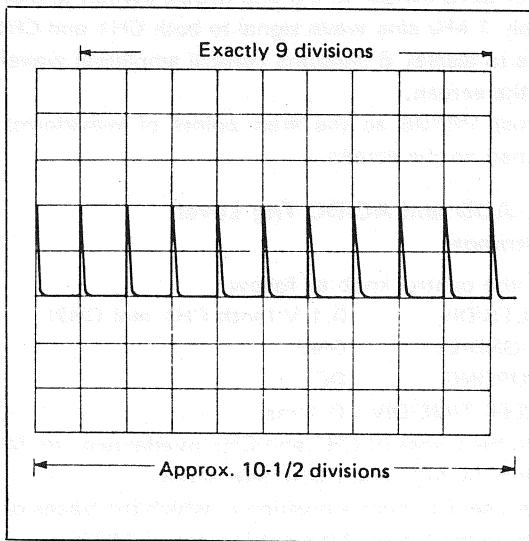

Fig. 8
4. Adjust VR305 so that 11 visible markers occupy exactly 11 divisions of horizontal deflection as shown in Fig. 8.
2. Adjust the following adjuster to duplicate the conditions shown in Fig. 8.